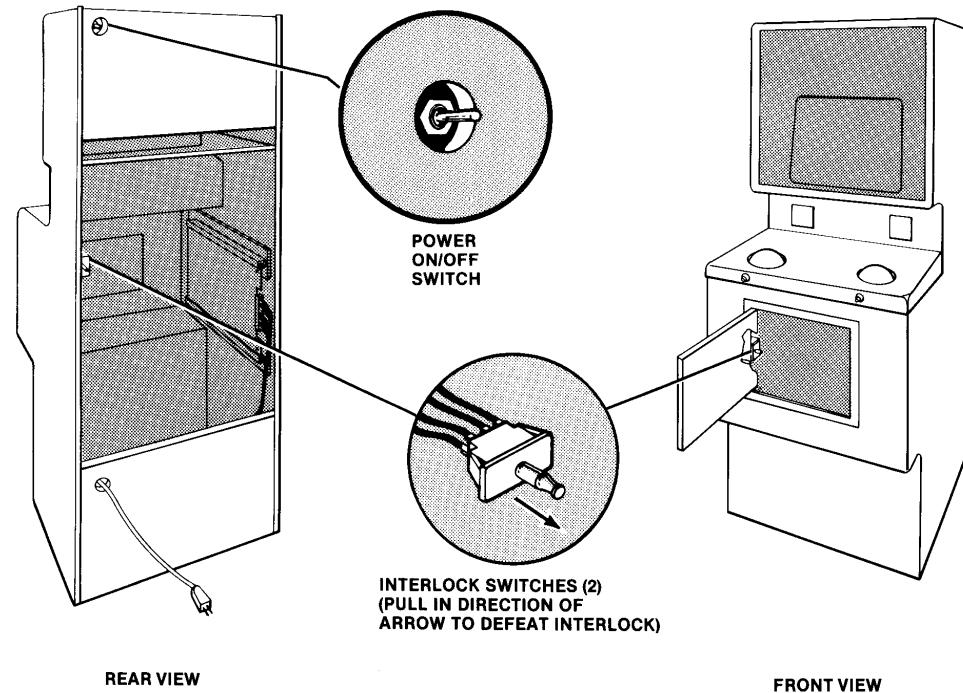

Figure 1-3 Power On/Off and Interlock Switches
Two interlock switches have been installed on your game to minimize the hazard of electric shock while you are working inside the cabinet (see Figure 1-3). One switch is located behind (inside) the rear access panel and the other behind the coin door. These switches remove all AC line power from the game circuitry whenever either door is opened.
- Set the power on/off switch to the "on" position (see Figure 1-3).